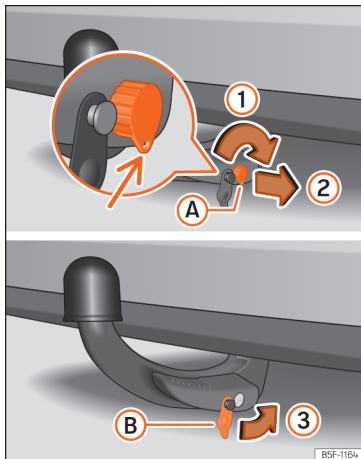

Fig. 175 Putting the tow hook in place. Step 2.
- Turn the key to the right just half a turn, until the hole in the key faces downwards »» Fig. 175 1.
- Remove the key 2.
- Place the cover B on the lock 3 »» Fig. 175 »» ⚠.